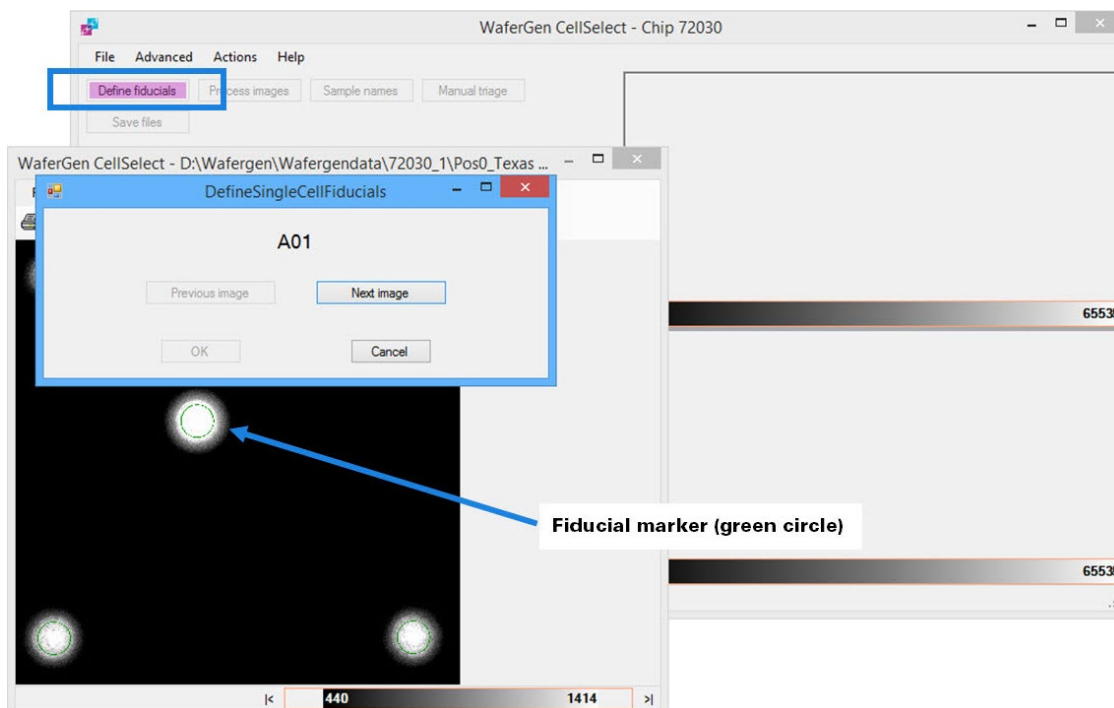

Figure 28. Defining fiducials.
6. The software will automatically detect fiducials and prompts you with four consecutive fiducial images. The [Define fiducials] box in the top-left portion in the *Main* window will be highlighted as this process occurs (see Figure 28). The first fiducial image (Pos0) shows five green circles, while the other three fiducial images (Pos11, Pos132, Pos143) show four green circles. The green circles highlight the centers of the nanowells (Figure 28).